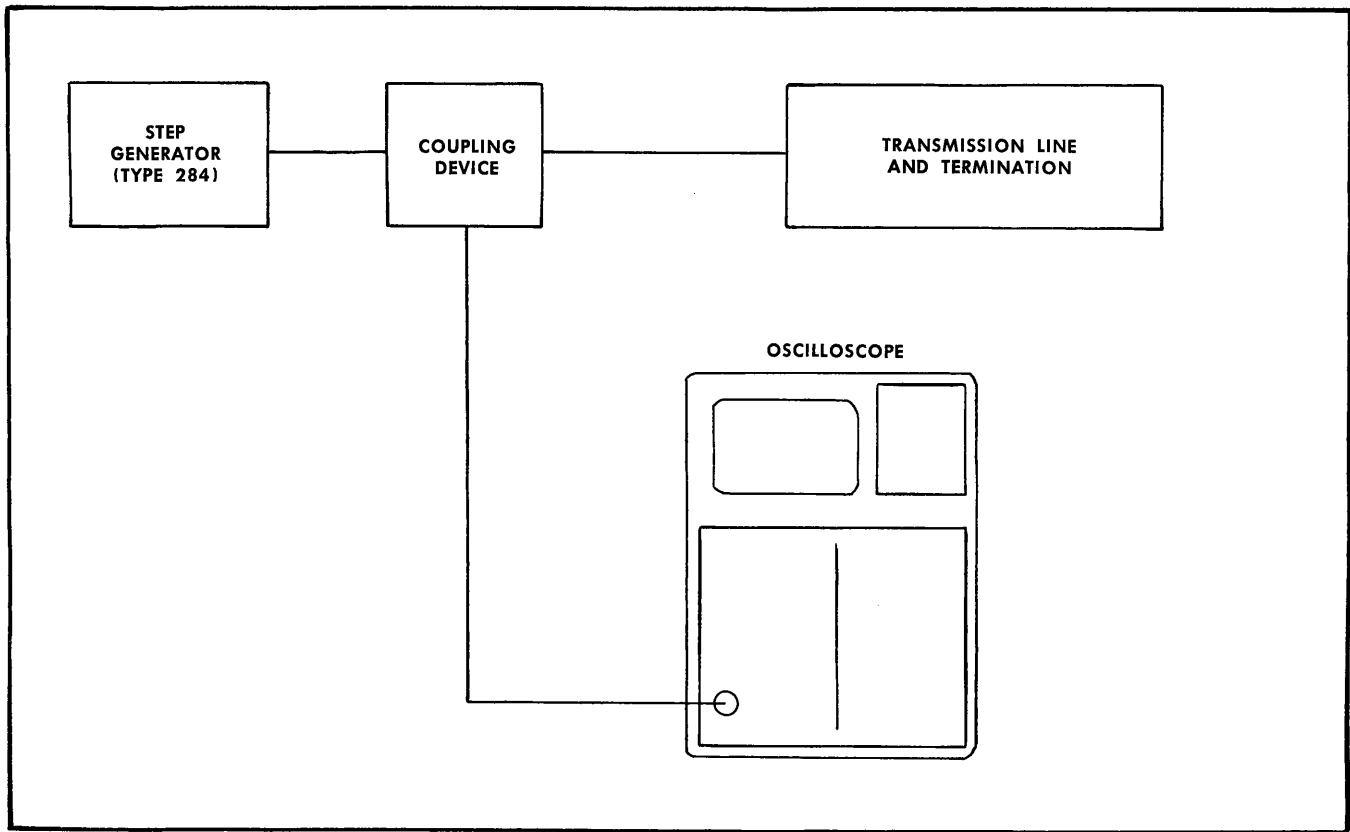

Fig. 2-22. A Time Domain Reflectometry (TDR) system.
A typical TDR system (Fig. 2-22) consists of 1) a step-signal generator, 2) a coupling device, 3) the transmission line under test and its output load, and 4) an oscilloscope to monitor the voltage at the transmission line input.
Formula (3) shows that a change in  $R_L$  directly changes  $E_{RL}$ . Since  $E_{RL}$  is the voltage observed by the oscilloscope, any change in  $R_L$  (the impedance of the transmission line) will produce a change in oscilloscope vertical deflection. In formula (3) we assume that  $R_g$  is equal to  $R_L$ , and that  $E_{RL}$  is not loaded by the oscilloscope. However, these factors are considered in the coupling device in Fig. 2-22. Consider  $R_L$  shorted, then  $E_{RL}$  will be zero. Conversely consider  $R_L$  open, then  $E_{RL}$  will be equal to  $E_g$  (the open circuit generator voltage).